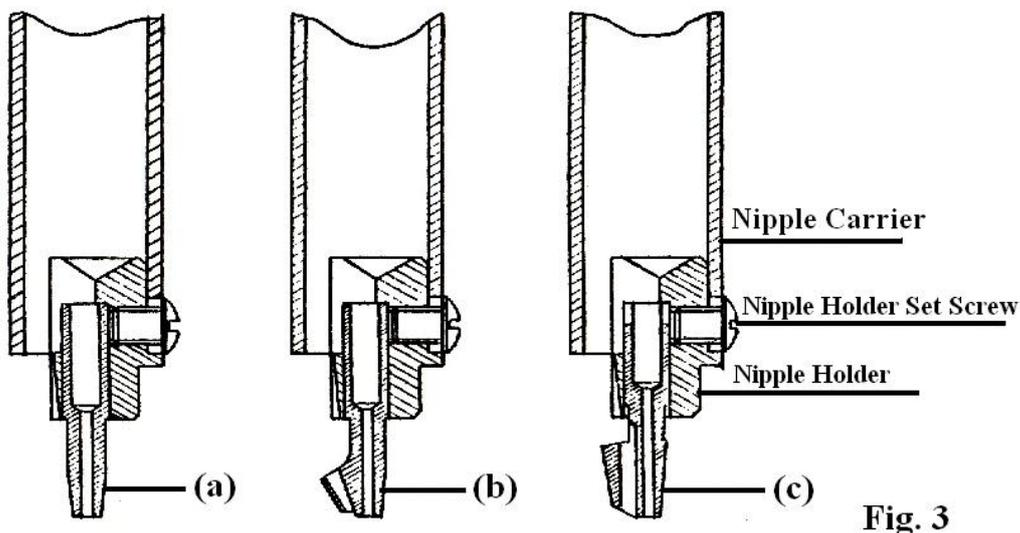

Fig. 3
5. NIPPLES, NIPPLES AND THREAD (Fig. 3)
The nipples for embroidery machine are available in the following kinds, as per Fig. 3.
Next, insert the selected nipple (N) into the lower part of nipple holder (O) and tighten screw securely with the screwdriver, Insert the nipple holder (O) into the nipple carrier (Fig. 3) and tighten screw securely. Screw selected needle into needle bar (A) and tighten with pliers provided. Replace needle bar (A) down into sleeve and adjust its height so that the fabric to be embroidered can just pass under the point of the needle.